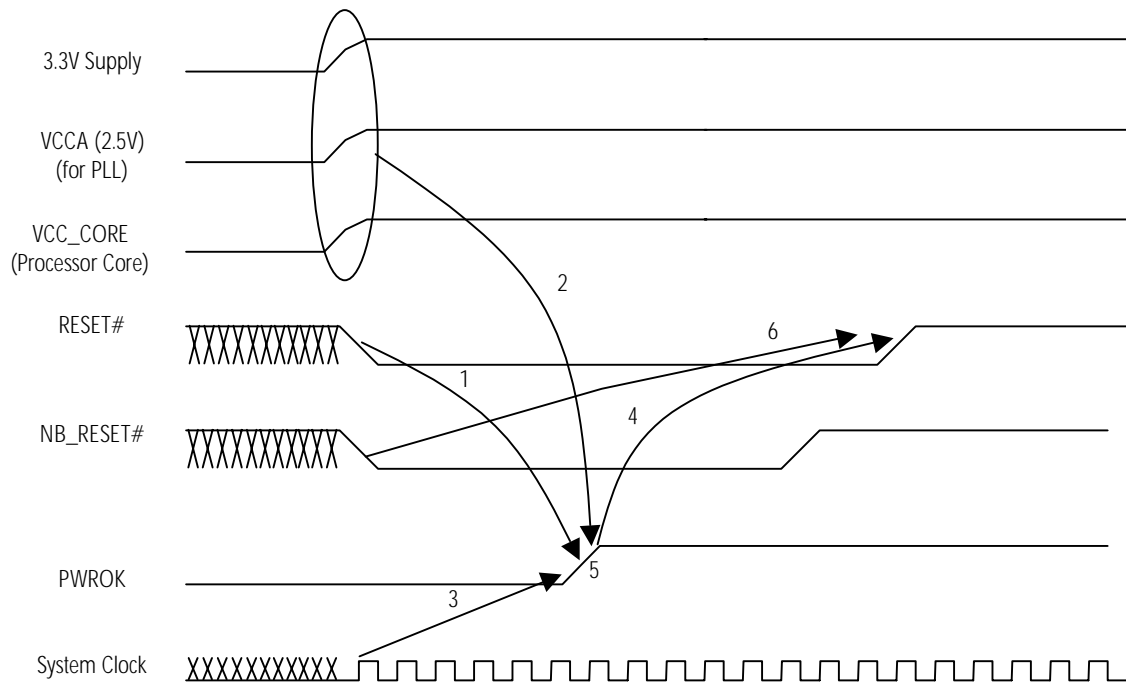

Figure 10. Signal Relationship Requirements During Power-Up Sequence
Figure 10 shows the relationship between key signals in the system during a power-up sequence. This figure details the requirements of the processor.
**Notes:** 1) Figure 10 represents several signals generically by using names not necessarily consistent with any pin lists or schematics.
2) Requirements 1-6 in Figure 10 are described in the following section.